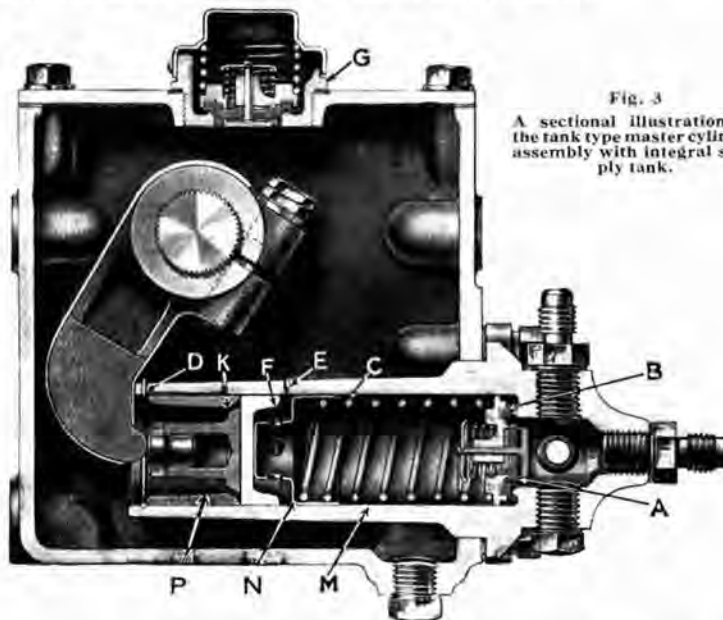

Fig. 3
The master cylinder proper is contained within the supply tank. It is composed of the cylinder casting (M, Fig. 3), piston stop (D), piston (P), piston cup (F), piston cup return spring (C), return spring retainer (N), and double check valve (A and B). The supply tank in turn is mounted to frame of car. It serves to carry the reserve supply of fluid and protects the master cylinder submerged in the fluid from any danger of taking in air, dirt or water.
The power necessary to stop a car is transmitted to the fulcrum lever (Fig. 3), which forces the master cylinder piston to displace the fluid through the lines and into the wheel cylinders, whose opposed pistons in turn actuate the brake-shoes. When the brake pedal is released, the return of the master cylinder piston and cup is accomplished by spring (C). The piston and cup return is so much faster than the return of the fluid from the wheel cylinders that a momentary vacuum is created in the cylinder barrel. This vacuum draws fluid through the small drilled holes (K) in the master piston, and past the edges of piston cup (F).
The above remarks concerning adjustment of the brake pedal apply in the main principles to the tank type master cylinder also. Make sure that the fulcrum lever is not adjusted tightly against the piston (P) (Fig. 3). Allow a slight amount of free movement of the brake pedal before the piston starts to move.
Remove piston stop (D) (Fig. 3), when the piston cup, spring, etc., are readily removed from the cylinder bore.